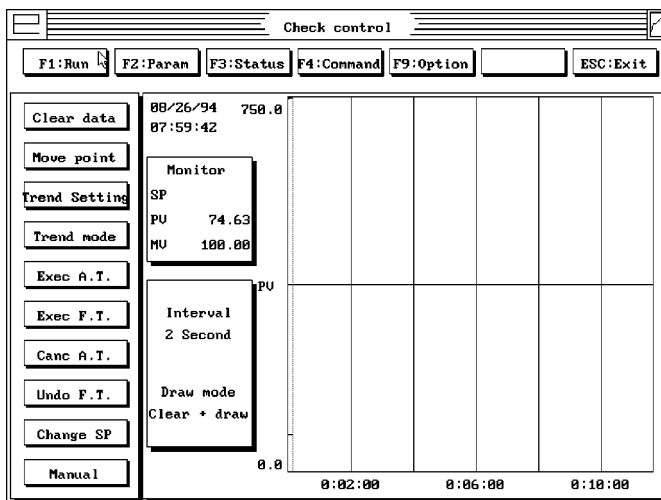

Figure 10
2. Select **F1:Run** from the **Check control** menu (Figure 10).